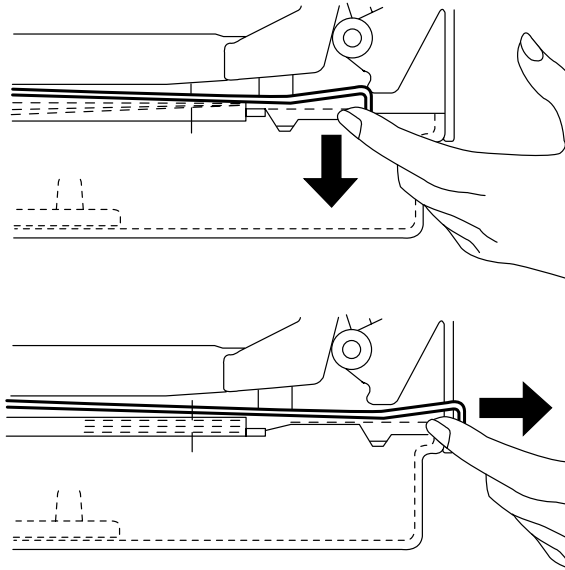

Fig. 6.22 *Remove the Manual-Feed Platform*
6. Remove the manual-feed platform by lifting it up and forward at the front of the platform until it drops out (fig. 6.22).